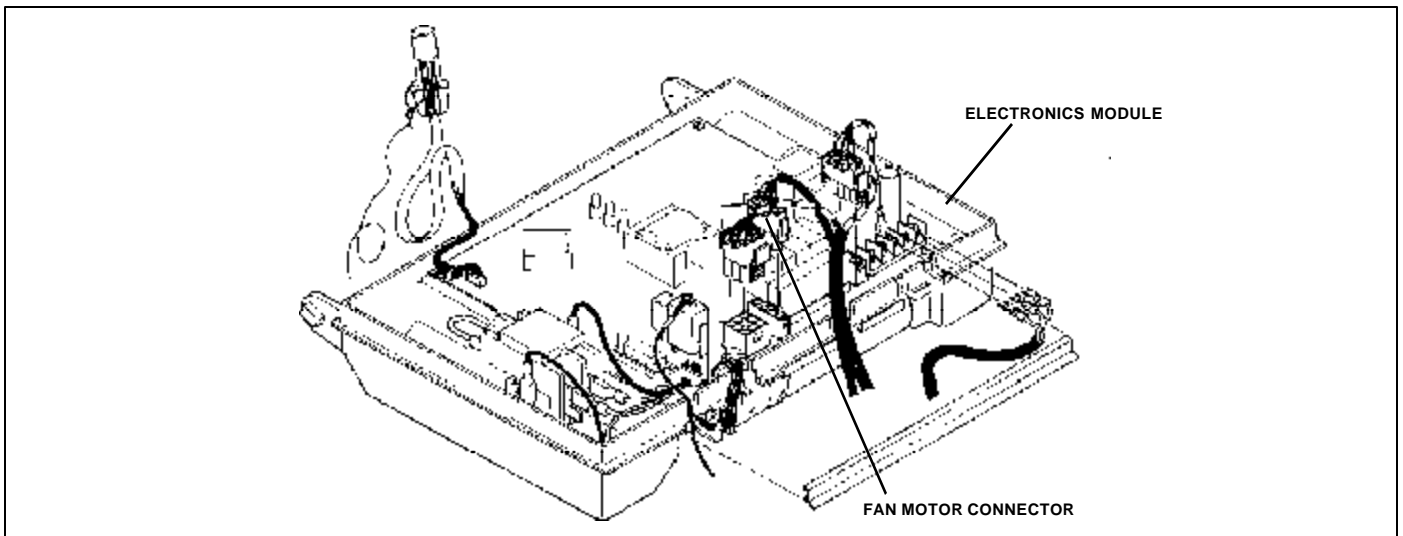

Figure 15 Location of Fan Motor Connector on Electronics Module
- Unplug the *fan motor cable* from the *Electronics Module* (See Figure 15).